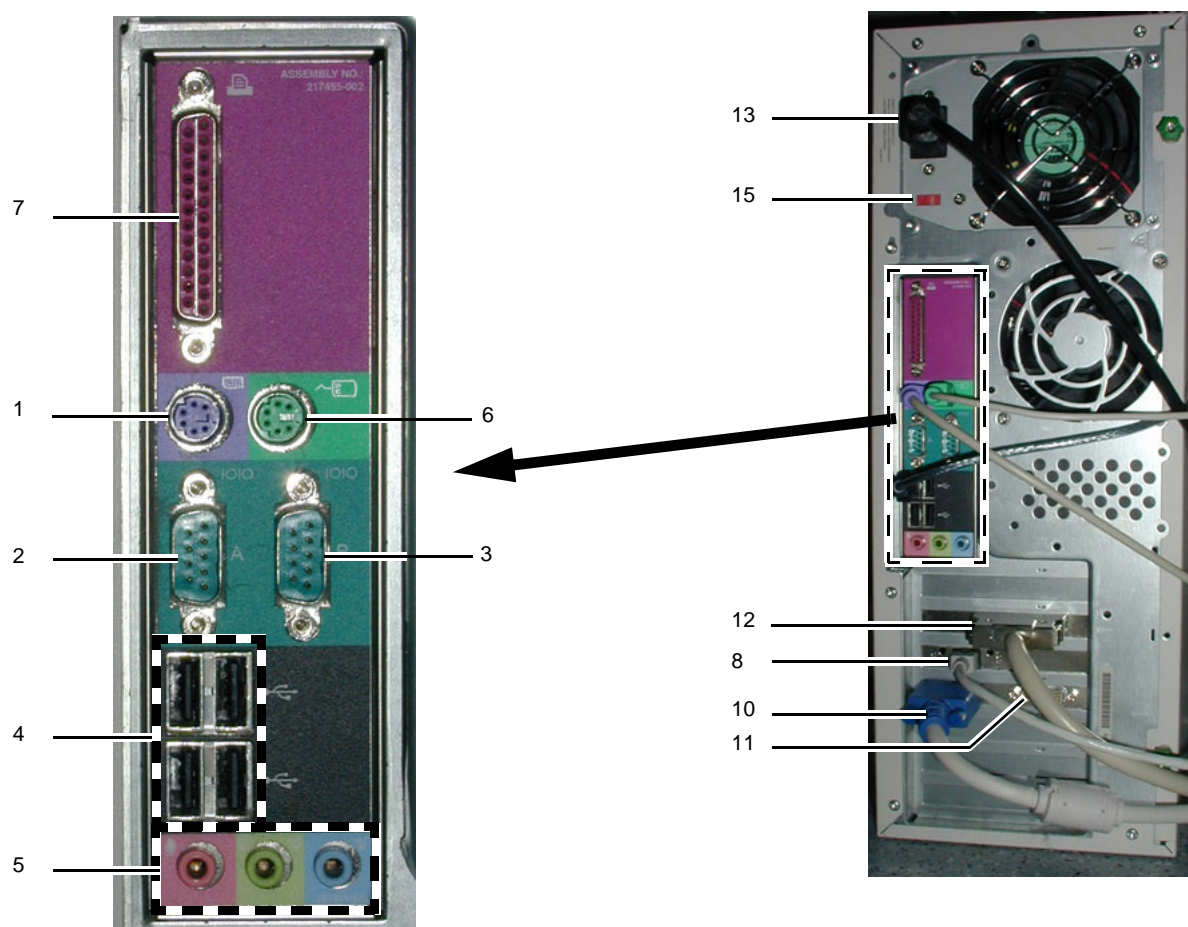

Figure 3-16 Connectors at Rear of COMPAQ W300
- Figure 3-16 "Connectors at Rear of COMPAQ W300" on page 3-27